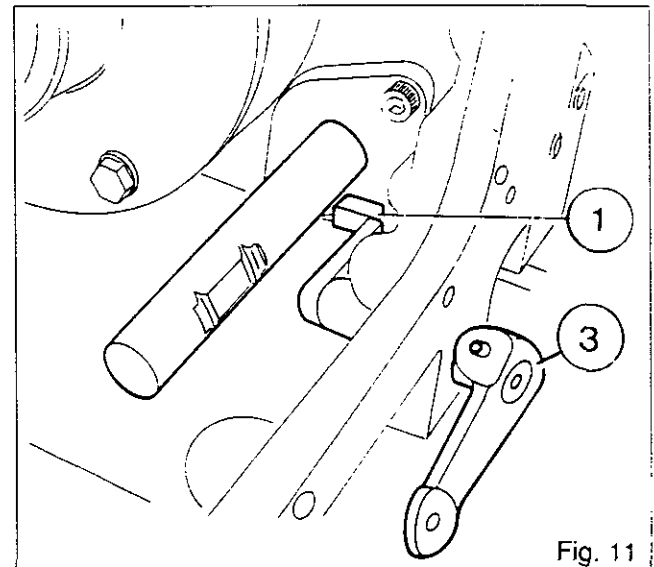
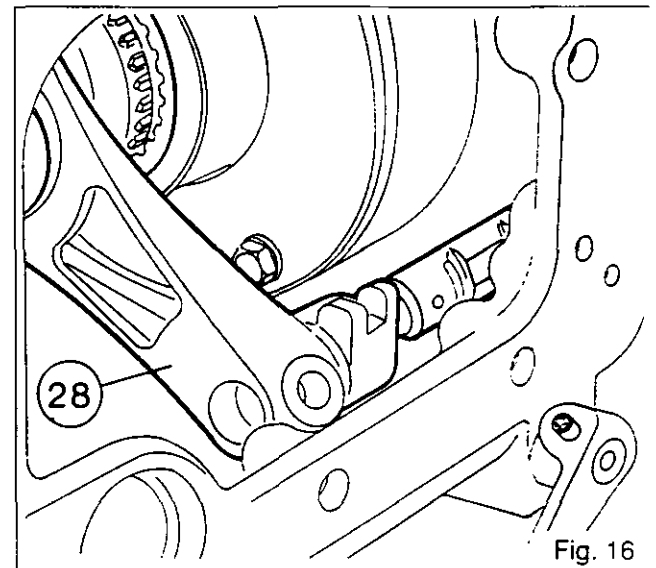

Fig. 11
Fig. 16
21. Refit the rod (3) (Fig. 11).
**Note: Ensure that the lever (1) of the creeper gear control rod faces the front of the tractor (Fig. 11).**
**Note: For gearboxes fitted with creeper gears, move the selector rail far enough forward to refit the fork (28) (Fig. 16).**
77. Fit the cover (15) with the bolts (16) and tighten to a torque of 27 - 32 Nm.
**Note: The fork control lever (1) should face forwards (Fig. 11).**